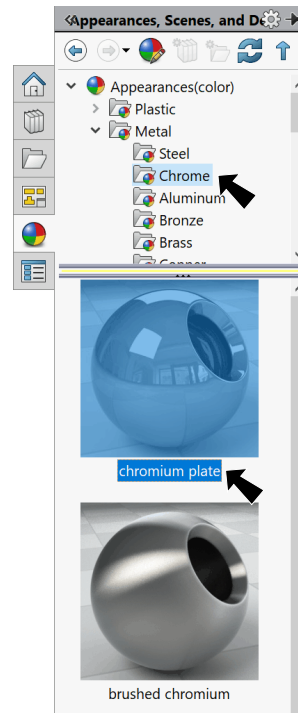

Fig. 17
Step 2. In the Appearances Task pane, expand **Metal** and click **Chrome** and in the lower pane select **chromium plate**, Fig. 17.